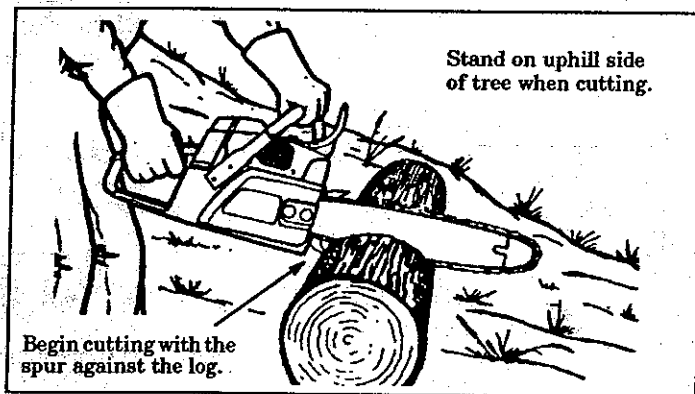

Figure 16
- b. **Begin cutting with the saw frame against the log.** Figure 16 .